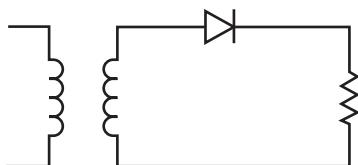

FIGURE 11.11
9 The circuit shown in Figure 11.11 shows a diode connected to the secondary coil of a transformer.
B. Draw the waveform of the voltage across the load for the circuit shown in Figure 11.11 if the secondary coil of the transformer has a 30 V_{pp} AC output signal centered at 0 volts DC. Use a separate sheet of paper for your drawing.